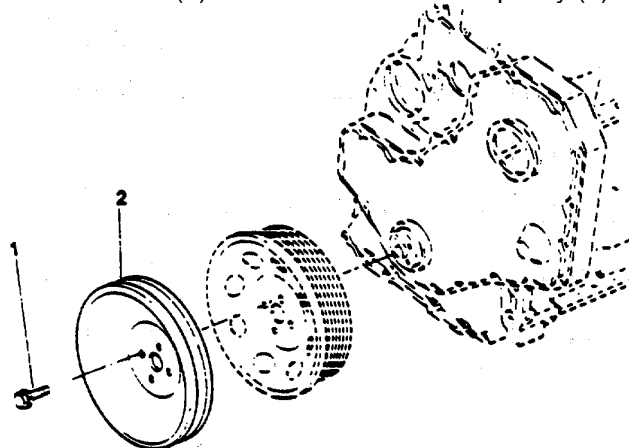

FIGURE 3-48. Crankshaft Pulley.
- c. Inspect the pedestal and shaft. Measure the shaft diameter (FIGURE 3-48).
- a. Remove crankshaft pulley. (FIGURE 3-48)
- (1) Remove four hex head screws (1) and remove crankshaft pulley (2)
Repair at this level of maintenance is by replacement of: gaskets (4, 10, 12, 2) seal (1, FIGURE 3-48), engine timing pin (12) andretainer packing (11).